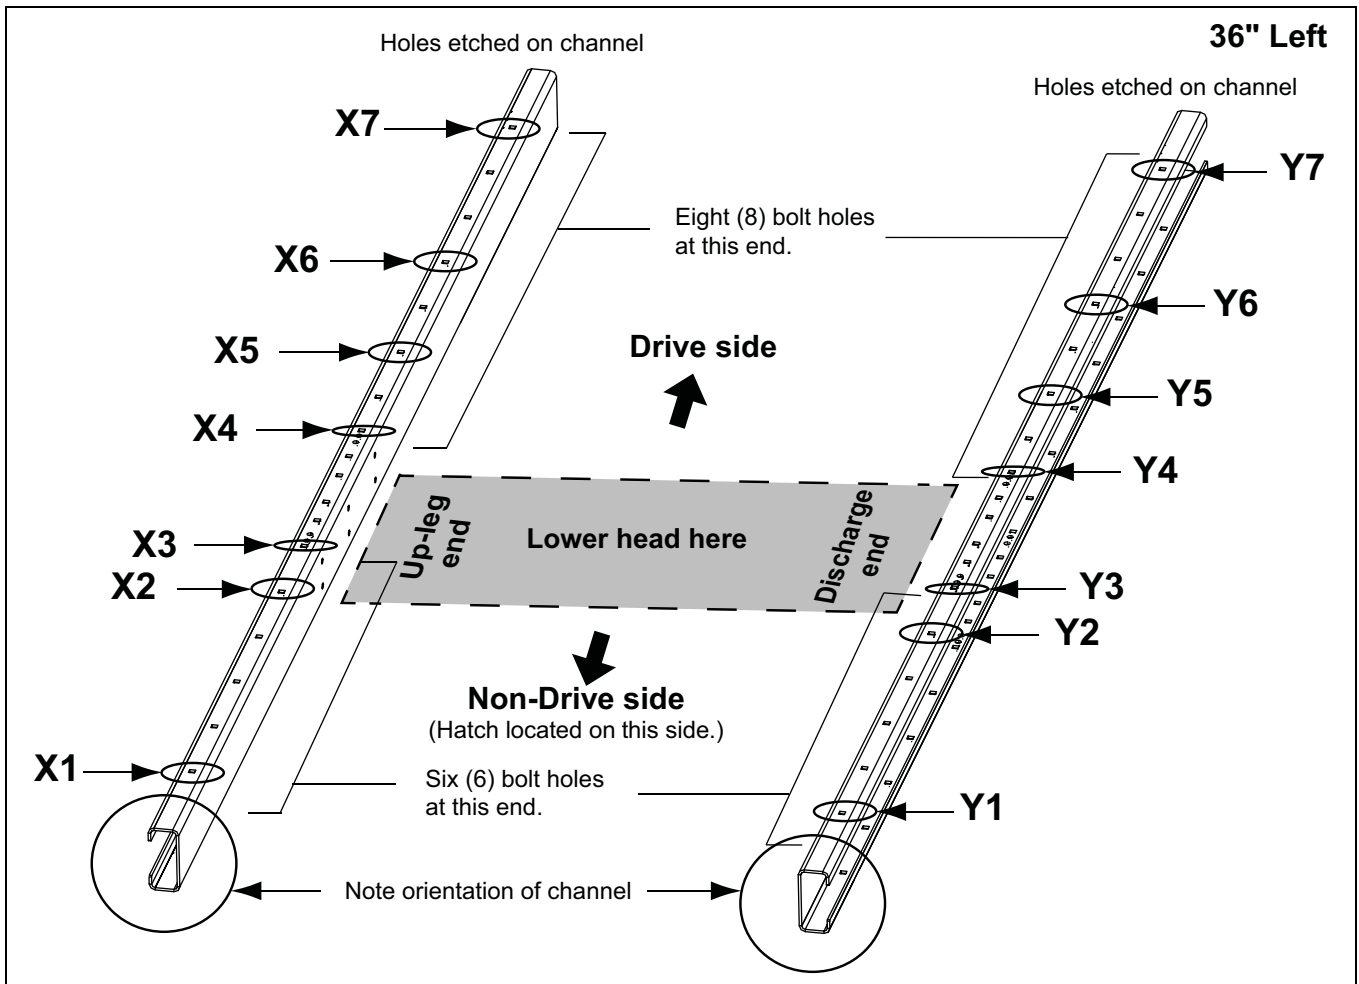
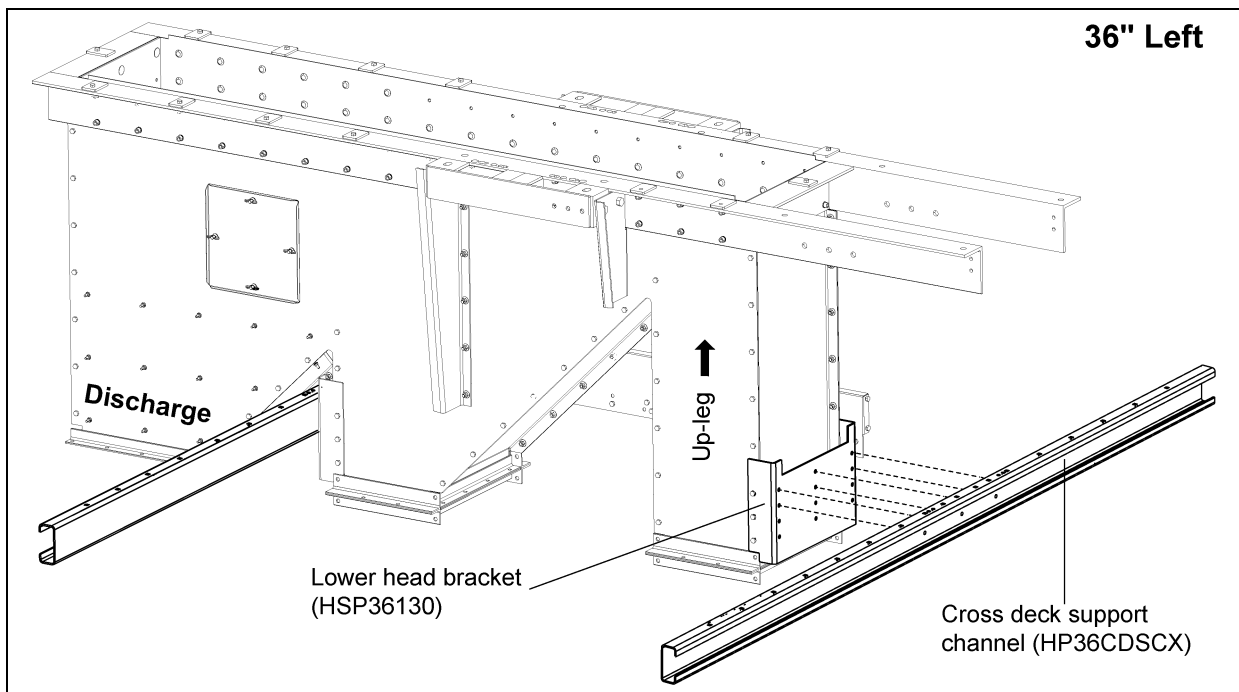

Figure 9D 36" Left Side Drive Channel Position
Figure 9E
(See Figure 9D on Page 69.)
3. Attach cross deck support channels (HP36CDSCX) to the top most set of holes of the lower head brackets (HSP36130) using 3/8" x 1" bolts and nuts. (See Figure 9E on Page 69.)
- *NOTE:** *The channels MUST be oriented as shown in Figure 9D and Figure 9E on Page 69 in order for the decking and subsequent assembly to be done correctly.*